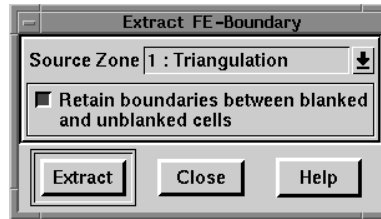

Figure 19-9. Extract FE-Boundary dialog.
2. From the Data menu, choose Extract, then choose FE-Boundary. The Extract FE-Boundary dialog appears as in Figure 19-9.